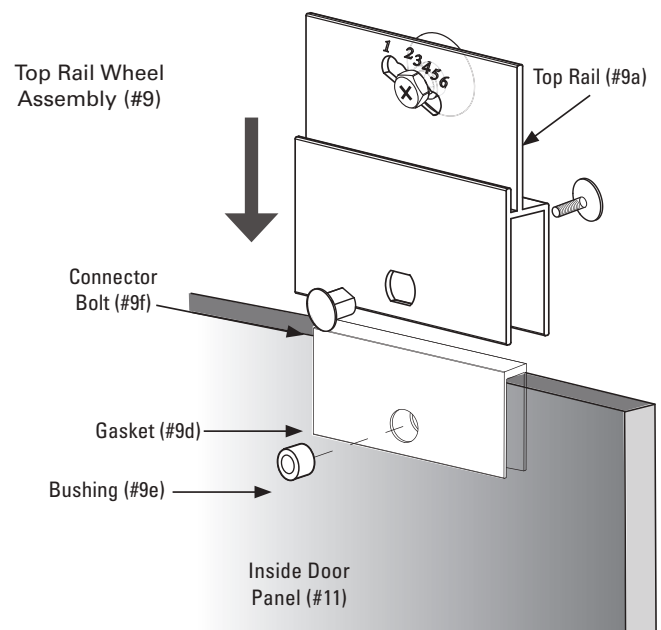

Figure 6a
G. Attach the Top Rail to the Inside Door Panel by inserting the Connector Bolt through the hole in the Top Rail, Gasket and Bushing (See **Figure 6a**).